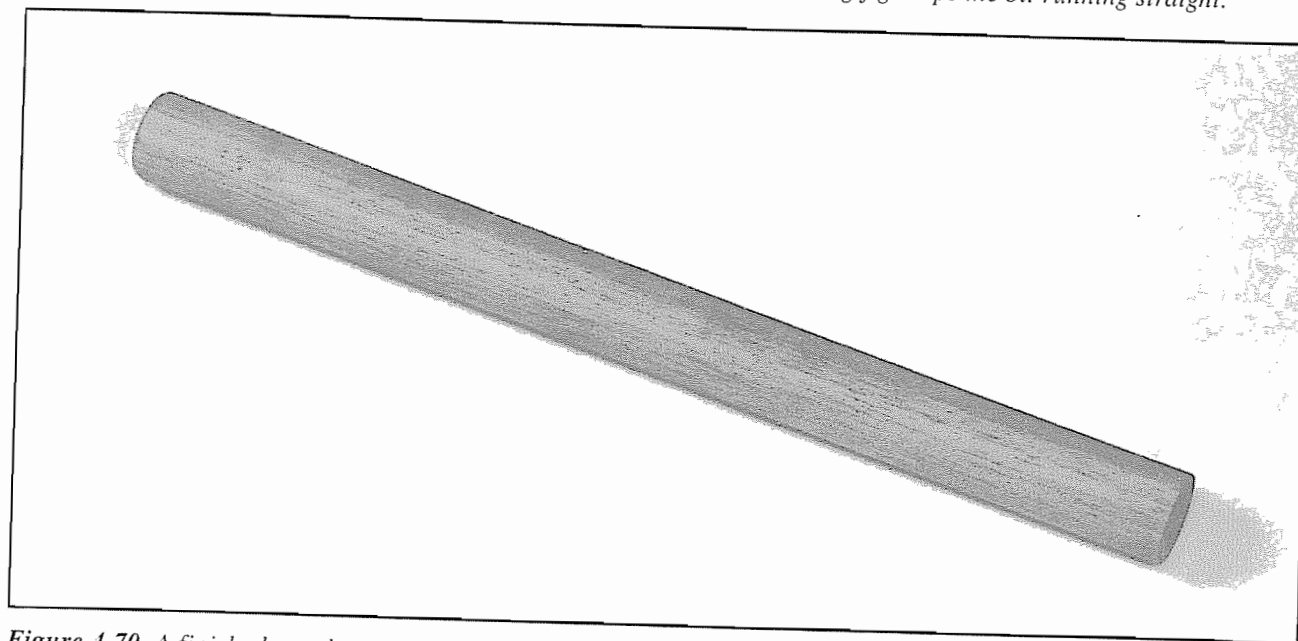

Figure 4-70. A finished wooden tamp.
5. Spray the tamp with a coat of varnish or paint, *but choose a finish that is hard, and impervious to the alcohol or the acetone in the propellant*. A paint salesman can advise you. The paint seals the wood grain, and makes the tamp last longer. **Figure 4-70** shows a wooden tamp, finished and ready to use.